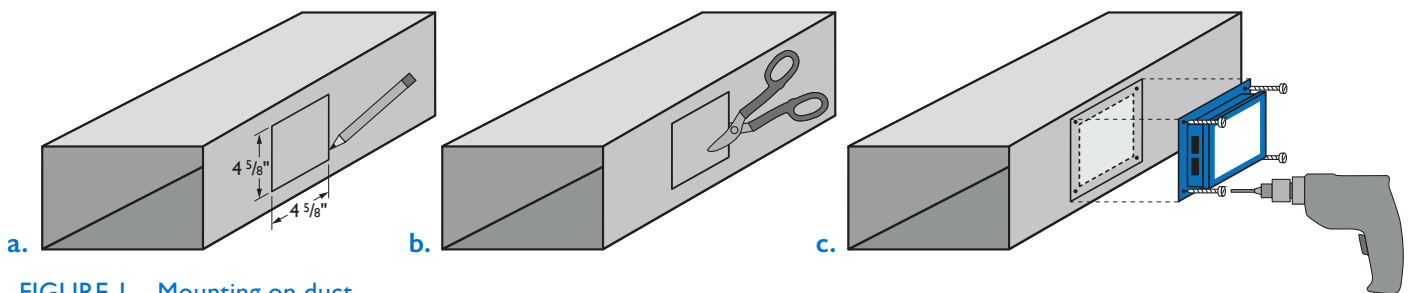

FIGURE 1 – Mounting on duct
2. To mount the 7000 Series in a duct: (See figure 1)